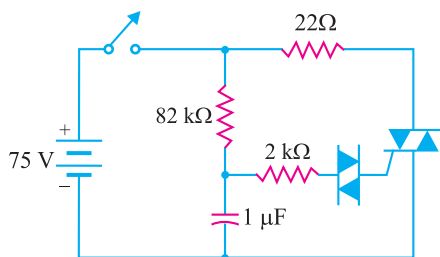

Fig. 21.34
6. In Fig. 21.34, the switch is closed. If the triac has fired, what is the current through the 22Ω ? [3.41 A]